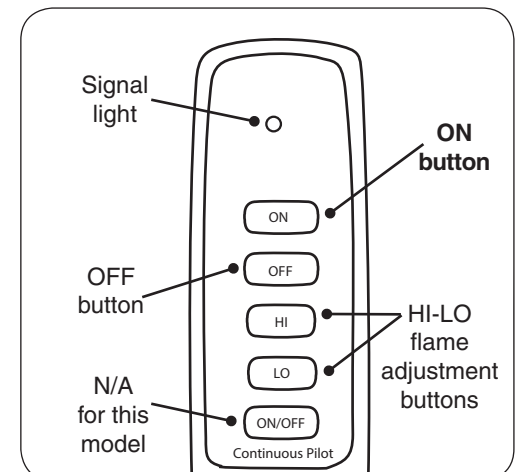

Fig. 33-3 Remote transmitter detail
3. Locate the remote transmitter and press the **ON** button (see Fig. 33-3). The ignition sequence will begin.